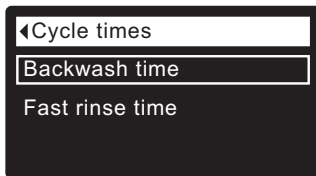

FIG. 75
5. Press the SELECT (O) button to display the Cycle times menu (See Figure 75).
9. Press the SELECT (O) button. The display will go back to the Cycle times menu (Figure 75).